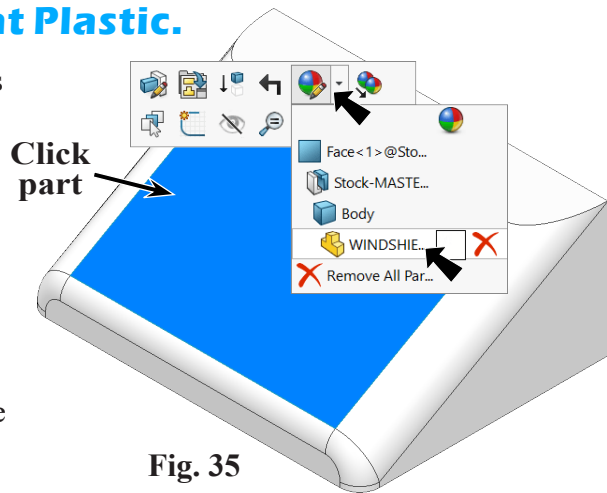

Fig. 35
Step 2. Click the Windshield to select part, click **Appearances Callout**  on the context toolbar and click **Windshield** , Fig. 35.